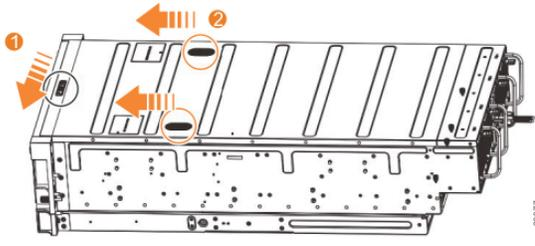

Figure 132. Releasing the 5U expansion enclosure cover
2. Slide the release latch (**1**) in the direction that is shown in Figure 132 on page 197.
3. Slide the cover toward the front of the expansion enclosure (2), as shown in Figure 132 on page 197.